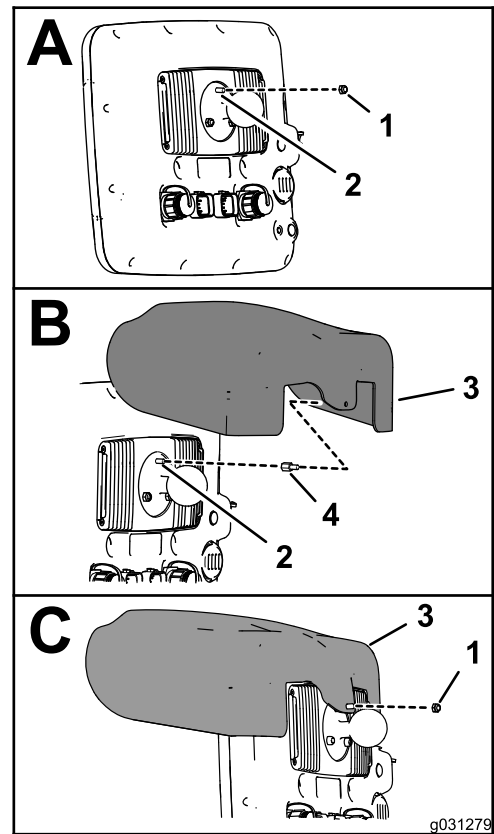

Figure 149
1. At the back of the sprayer monitor and with the 2 connectors (26 pin) aligned down, remove the top locknut (5 mm) from the stud for the ball-pivot fitting (Figure 149).
3. Thread the standoff into the stud for the ball-pivot fitting (Figure 149) and torque the standoff to 250 N·cm (22 in-lb).
- Align the hole in the display hood with the stud portion of the threaded standoff (Figure 149).
- Assemble the hood to the monitor (Figure 149) with the locknut (5 mm) that you removed in step 1.